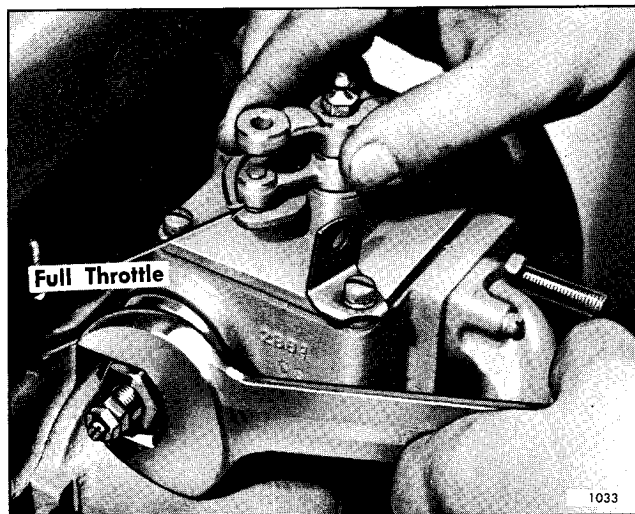

Fig. 10 - Adjusting High Speed
Turn the high speed adjusting screw (38) until the desired no-load maximum speed is obtained with the throttle lever in a wide open position, Fig. 10. Lock the nut (37).